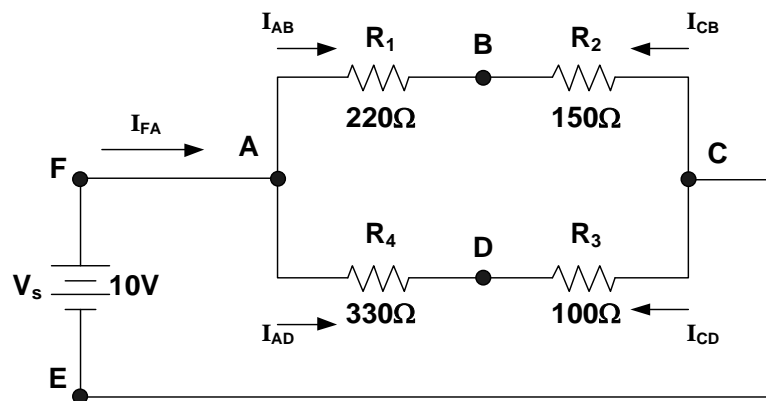

Figure 4: Resistive circuit diagram
1. Construct the circuit shown in Fig. 4 using *Multisim Electronics Workbench*.
6. Construct the circuit in Fig. 4 with hardware components. Repeat steps 2-5. Enter your results in Tables 5-8. Compute the percentage errors. Comment on any discrepancy in the voltage/current experimental and theoretical values